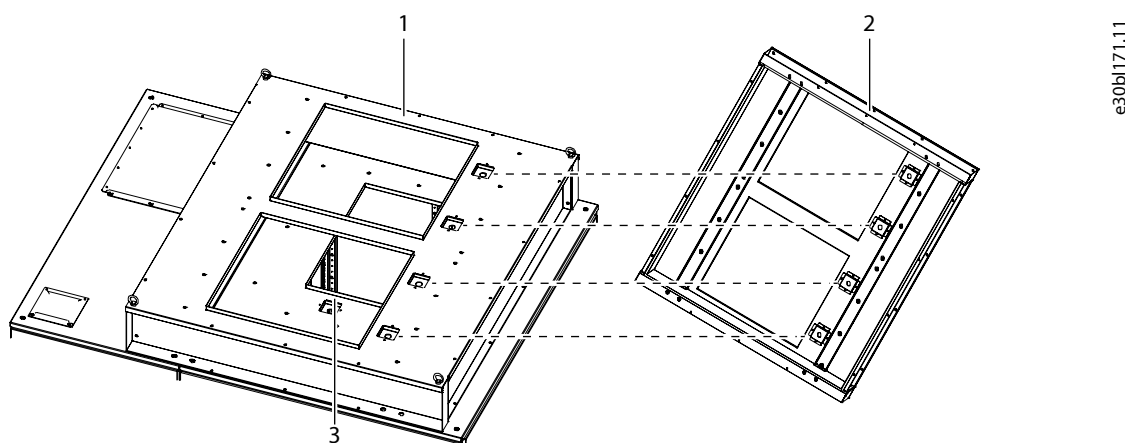

Figure 54: Installing the Air Hood and Quick-connectors Bracket
3. Install the quick-connector bracket on the air hood with M4×10 screws. See Figure 54.